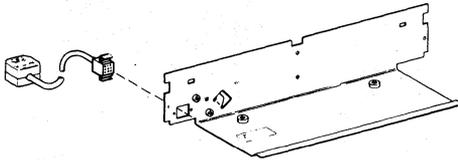

Fig. 6—Disconnection of Cable
2.09 Disassemble the 346333 cable from the cradle. Discard the cradle but retain cable, cable clamp and associated hardware. See Fig. 6.